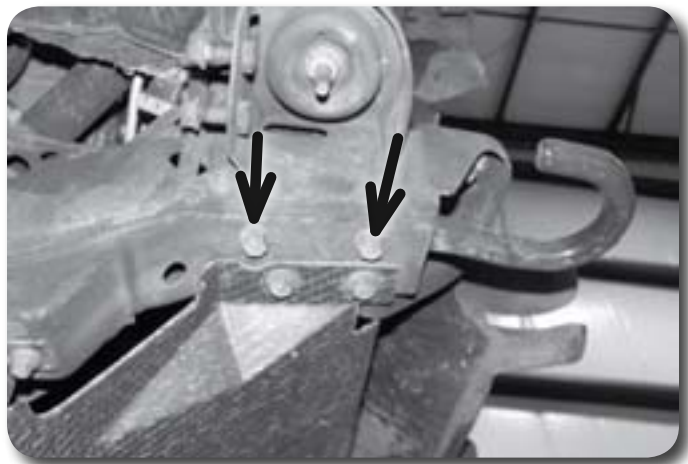

Figure 5
8. If equipped, remove the two bolts mounting each of the tow hooks in the frame rails and remove the tow hooks from the vehicle Figure 5.